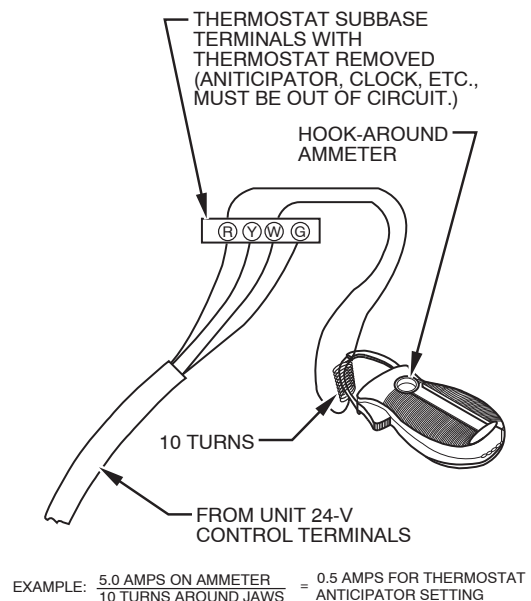

Fig. 43 - Amp. Draw Check with Ammeter
- (2.) Connect an amp. meter as shown in Fig. 43 across the R and W subbase terminals or R and W wires at wall.